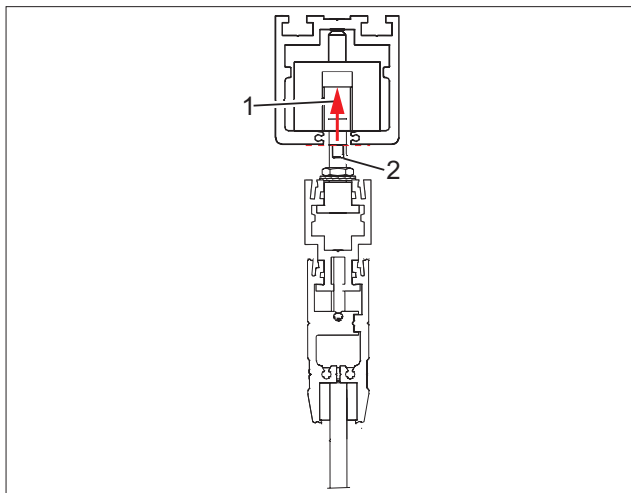

Fig. 25 Fastening the swing panel
3. Screw the bolt (Fig. 25/1) into the upper pivot bearing using an 8-mm open-end wrench until the wrench flat (Fig. 25/2) is flush with the lower edge of the track rail.